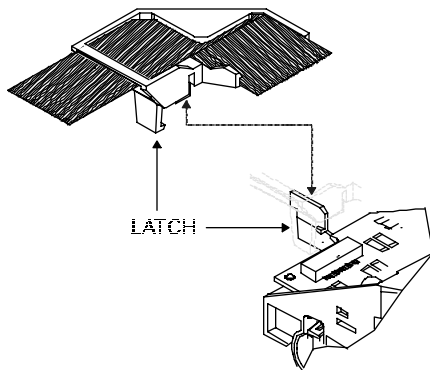

Figure 5-12. Strain Relief Removal/Installation.
5. Remove the Trailing Cable and Strain Relief from the Carrier Assembly by releasing the latch on the left lower side of the Strain Relief and lifting it off of the Carrier Assembly. See Figure 5-12.